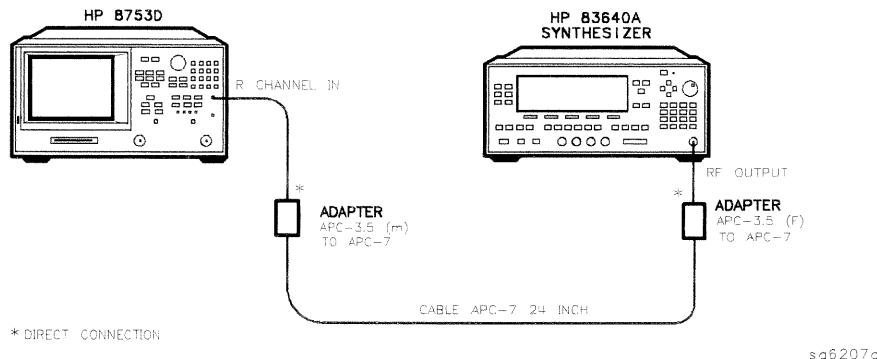

Figure 2-15. External Source Mode Frequency Range Test Setup
2. Connect the equipment as shown in Figure 2-15.